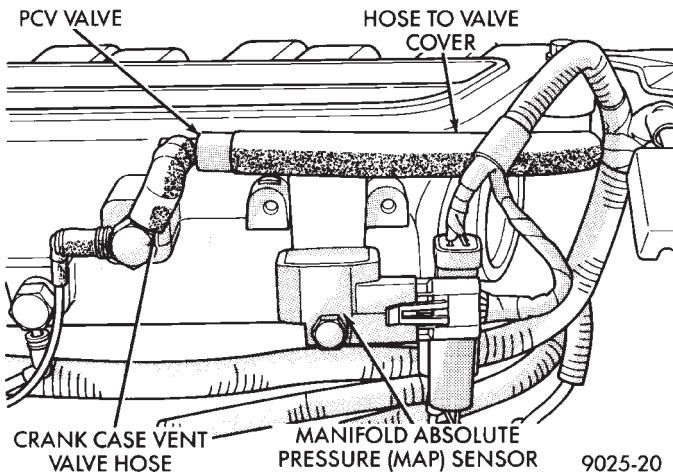

Fig. 12 PCV System
(20) Inspect the PCV system connections for damage (Fig. 12).